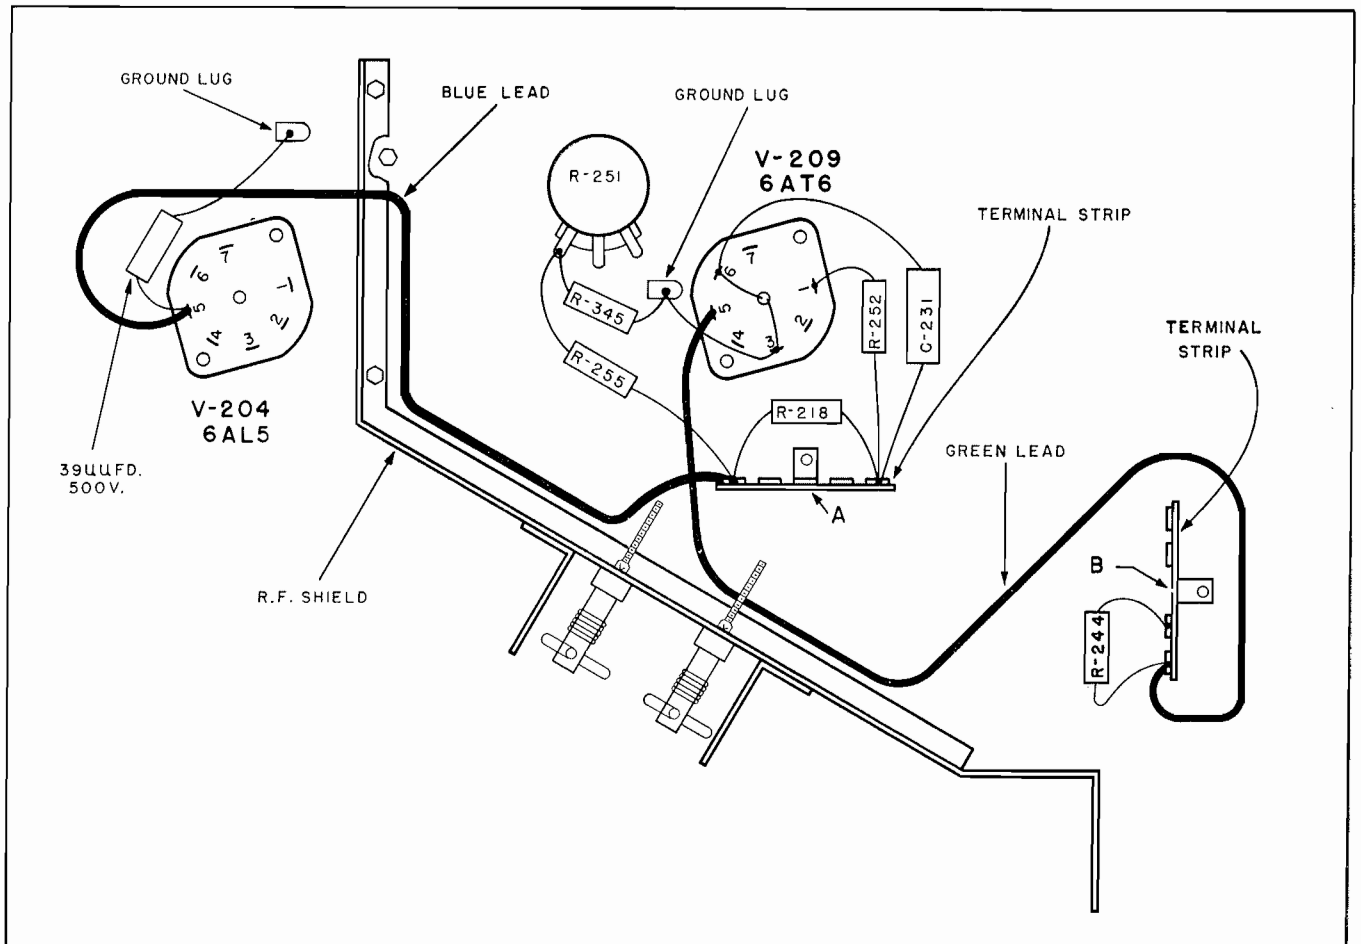

Figure B-1. RA-105 AGC Wiring Changes.
countered, the circuit changes described below, and illustrated in Figure B-1 should be made. These changes were incorporated in all RA-105 chassis manufactured after March, 1949.
nected to terminal strip A (Figure B-1). Disconnect the other end of this lead and remove it from the cable through which it passes.
4. Reconnect R244 to terminal strip B as shown in Figure B-1.
6. Disconnect the other end of the green lead and reconnect it to terminal strip B, as shown in Figure B-1.
8. Connect the blue lead, removed in step 2, to pin 5 of V204, run it through the hole in the r-f shield, as shown in Figure B-1, and connect it to terminal strip
10. Connect a second 470K, one-half watt, resistor (R255) from the a-g-c potentiometer (R251) to terminal strip A, as shown in Figure B-1.
11. Connect a 560 ohm, one-half watt, resistor (R345) from the a-g-c potentiometer (R251) to the ground lug shown in Figure B-1.